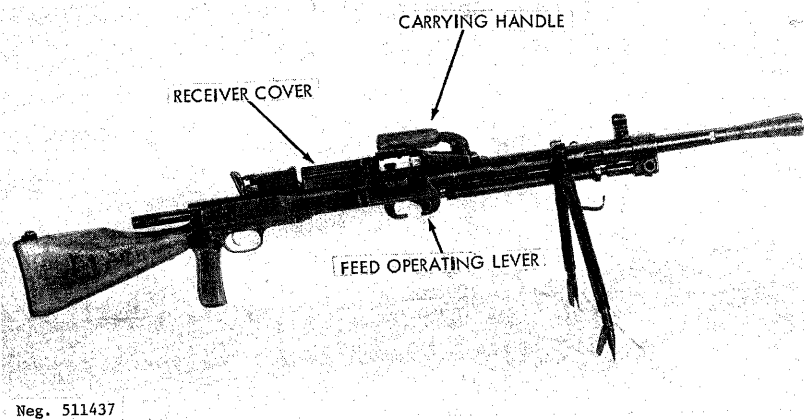
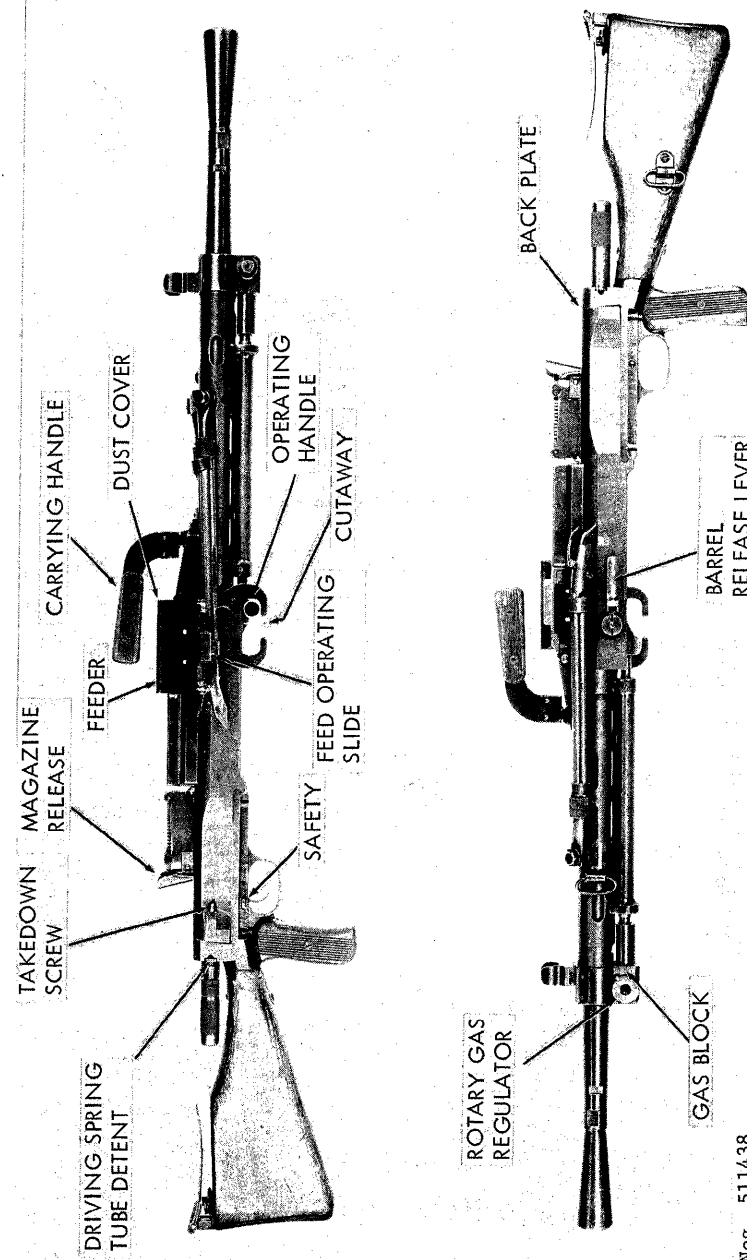
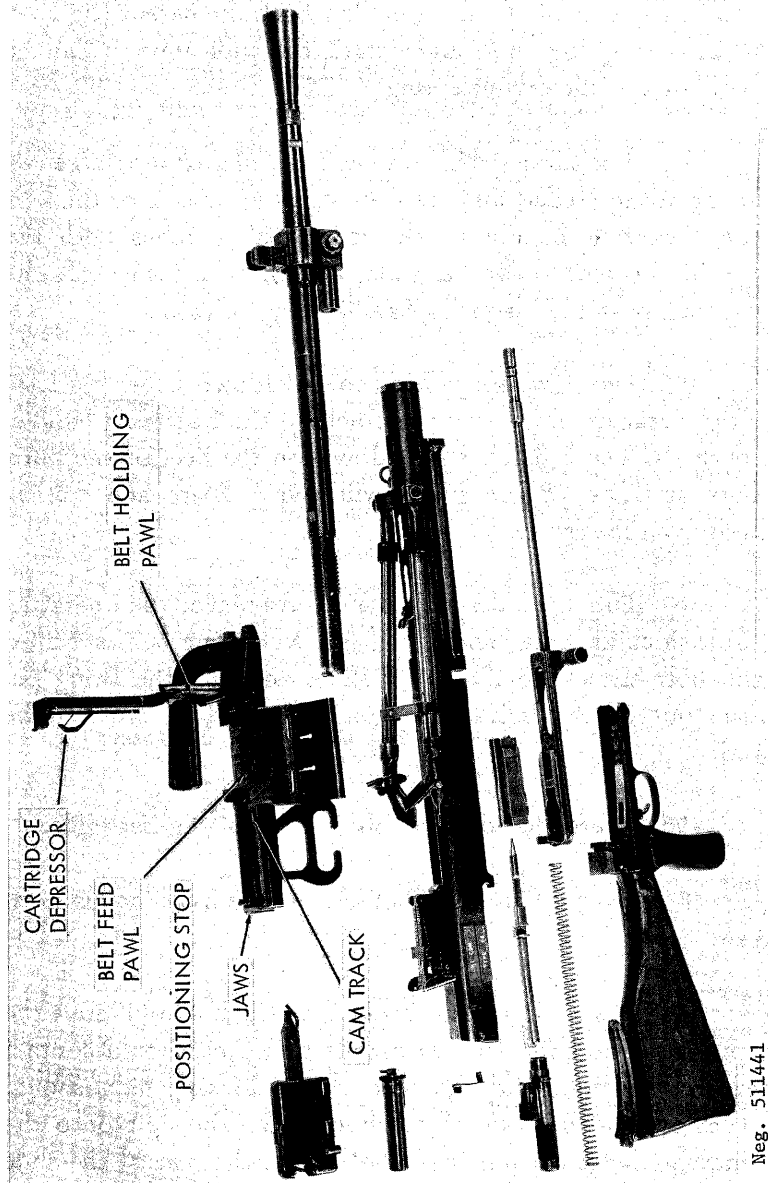

Figure 138. RP-46 company machinegun.
Figure 139. PRC Type 58 company machinegun.
Figure 142. RP-46 field stripped.
- (3) The RP-46 Company machinegun (fig 138), the Type 58 Chinese version (fig 139), and the Type 64 North Korean version.
i. The DP, DPM, and RP-46 have quick-change barrels; the DT and DTM do not. To change the barrel, cock the gun and press in on the barrel lock (fig 135) of the DP and DPM, or press the barrel-release lever (fig 139) of the RP-46 fully forward to release its barrel lock. Place a wrench on the barrel notches near the muzzle and rotate the barrel clockwise one-sixth of a turn; then pull the barrel forward and out of the barrel jacket. Insert a fresh barrel, depress the barrel lock, seat the barrel fully, and counterrotate it one-sixth of a turn to lock it in place. Use caution when changing barrels; they get very hot!
(1) Clear the gun (para 175h), but do not put it on safe.
(2) On the DP only, unlock the driving spring by pressing the handle of the lock forward against the force of the driving spring; then rotate it downward. This handle is located at the left front end of the receiver, about 2 inches ahead of the barrel lock.
(3) The driving spring of the DPM, DTM, and RP-46 is mounted at the rear of the receiver. Pry back the detent (fig 139) on the driving spring tube and rotate the tube until it can be removed. Pull out the driving spring.
(4) For the RP-46, pull back the magazine release (fig 139) to open the feeder, and turn the carrying handle to the left. Pull the operating handle to the rear until it aligns with the cutaway in the feed operating slide, and lift the feeder off the receiver; then push the operating handle fully forward.
(5) Unscrew and remove the takedown screw (fig 138) at the right rear of the receiver just behind the operating handle; then, with the other hand, strike down on the heel of the butt. The butt and the trigger guard will swing apart and can be separated from the receiver.
(6) Pull the operating handle rearward; the operating slide, bolt, locking flaps, and firing pin will come out as a unit. Lift the bolt straight up, off the slide, and pull the firing pin rearward, out of the bolt. The twin locking flaps can now be removed.
(7) No further disassembly is necessary or desirable.
e. The belt feeder of the RP-46 is powered by the recoiling operating handle. The handle fits inside the feed operating slide (fig 139), and, as the handle reciprocates, the feed operating slide also moves back and forth. The handle has some free travel in the operating slide so that full operating power is available to unlock the gun. As the feed slide moves rearward, a cam track (fig 142) on its horizontal top side moves a belt feed slide inward. The feed slide moves the first cartridge in the belt against positioning stops (fig 142), and the round is held there by a stationary belt holding pawl (fig 142) in the top cover. As the feed slide goes forward, the feed pawl moves outward and engages the next round to be fed.
f. The feed slide has a pair of jaws (fig 142) on its upper left side that grasp the rim of the cartridge positioned against the stops in the cover, and, as the feed slide moves rearward, the cartridge is extracted from the belt by these jaws and is moved rearward over the mouthpiece. A spring-loaded cartridge depressor (in the top cover) forces the cartridge down into position in the mouthpiece so that the bolt feed ribs can pick up the cartridge.